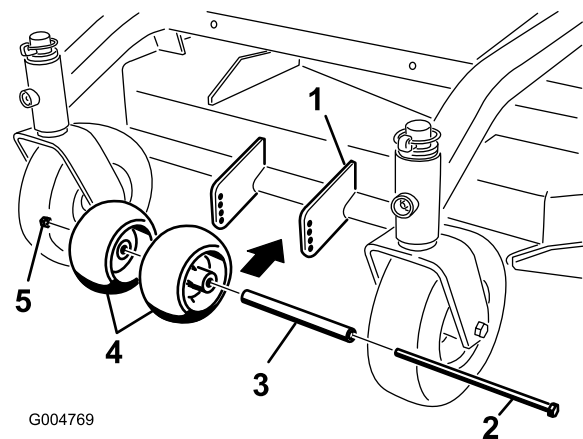

Figure 13
1. After adjusting height-of-cut, check the anti-scalp rollers so that there is a minimum of 10 mm (3/8 inch) clearance above the ground (Figure 13).
2. If adjustment is needed, remove the bolt, washers and nut (Figure 13).
3. Select a hole position so the anti-scalp rollers are a minimum of 10 mm (3/8 inch) off the ground (Figure 13).
4. Install the bolt and nut (Figure 13).